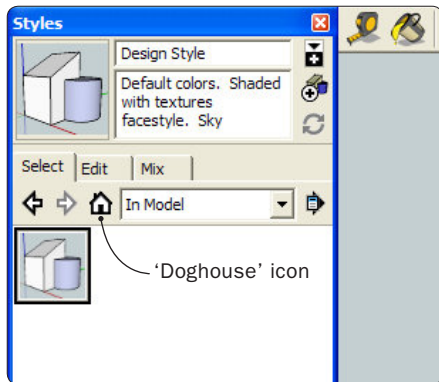

Figure 7. Clicking on the icon shown opens this dialog box.
2. Click on what I call the doghouse icon (Google calls it the In Model icon) near the center of the window. That causes the dialog box to change as in Figure 7, showing the current style below the doghouse icon.